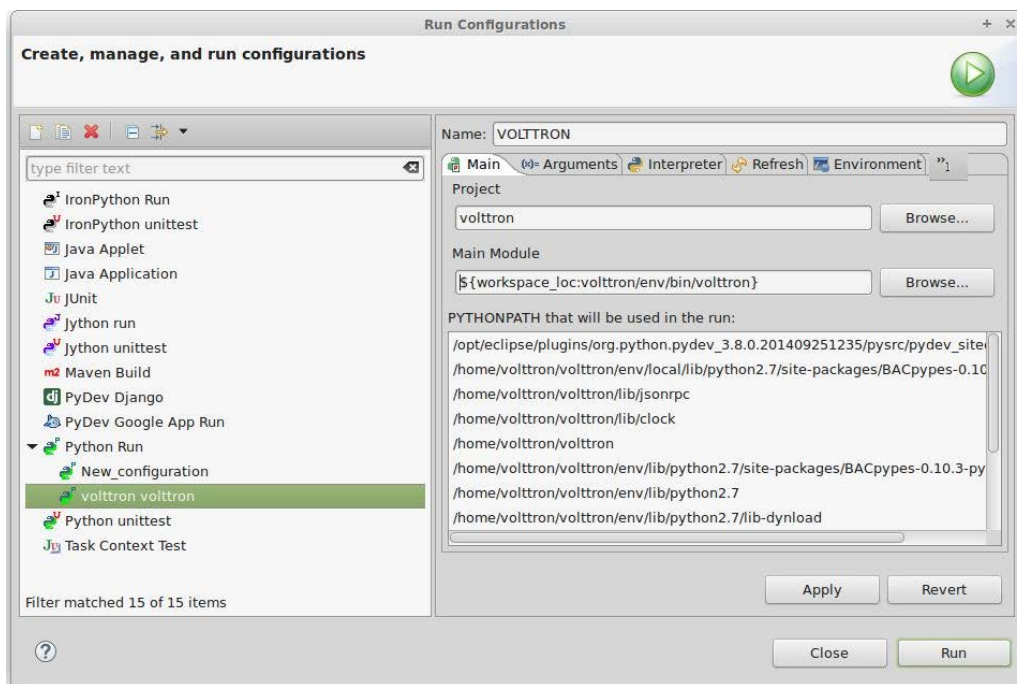

Figure 72: Running VOLTTRON Platform, Setting Up a Run Configuration
2. Select the Main tab (Figure 72), in the Name field and enter a name (any name can be chosen, we have chosen VOLTTRON). Also, ensure that the Main Module field contains the same text as Figure 72.